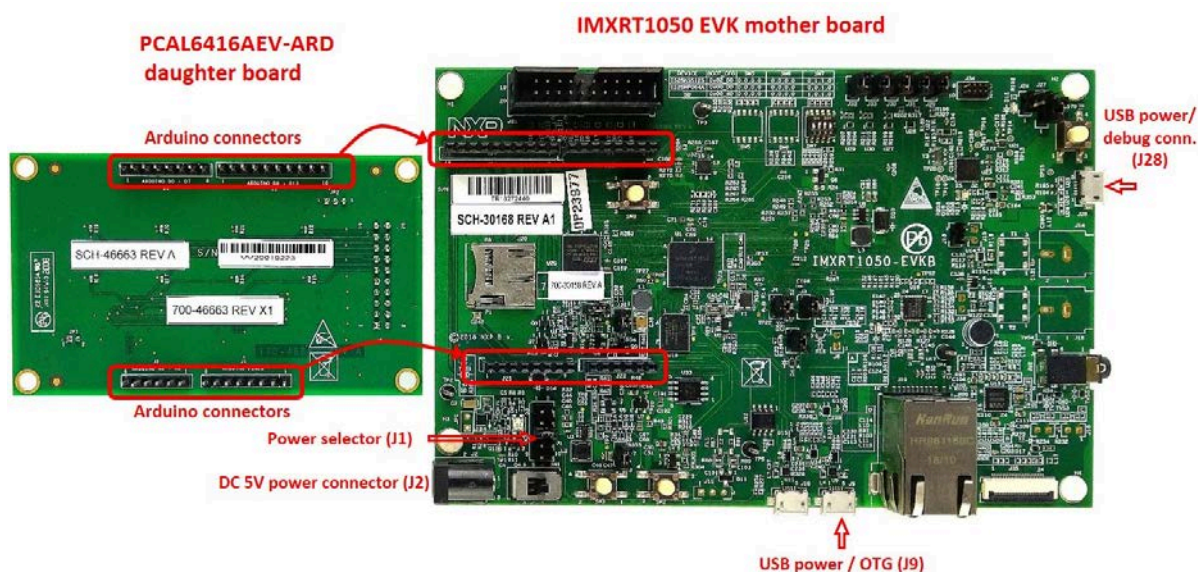

Figure 4. PCAL6416AEV-ARD daughter board and IMXRT1050 EVK board, before starting
Figure 4 shows the required hardware for operation of the PCAL6416AEV-ARD daughter board with IMXRT1050 EVK. The following items are necessary:
From J1 on the EVK board (see Figure 4) the user can select the power configuration for the mother board. For further details, refer to the MIMXRT1050 EVK Board Hardware User's Guide
2. Insert the PCAL6416AEV-ARD daughter card on the Arduino connector of the EVK (see Figure 4).